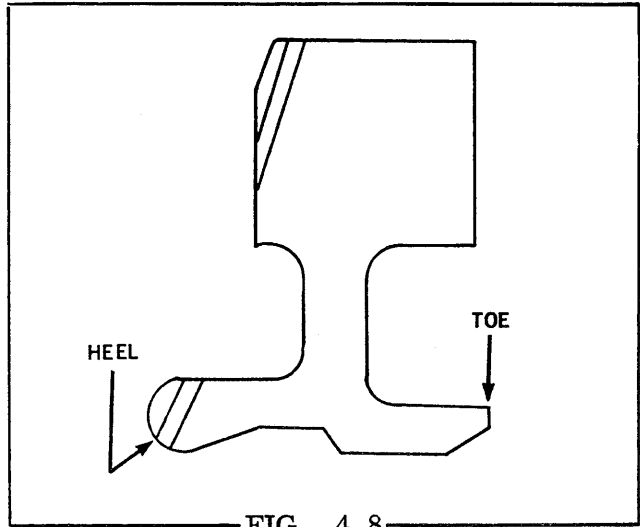

FIG. 4.8
9. Governor Weights - Check pivot points and toe) of all weights for excessive wear (Fig. 4.8).